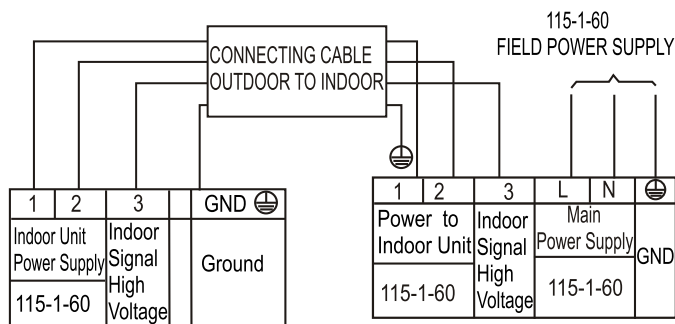

Fig. 23 — Connection Diagram 12K (115V)
2. All connections between the indoor and outdoor units must be made as shown in Figures 23 - 24. The connections are sensitive to polarity and will result in a fault code.